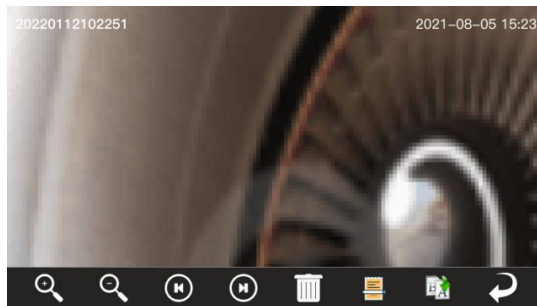

Figure 8-39
(1) Touch the image to do some editing on the image(see Figure 8-39) :